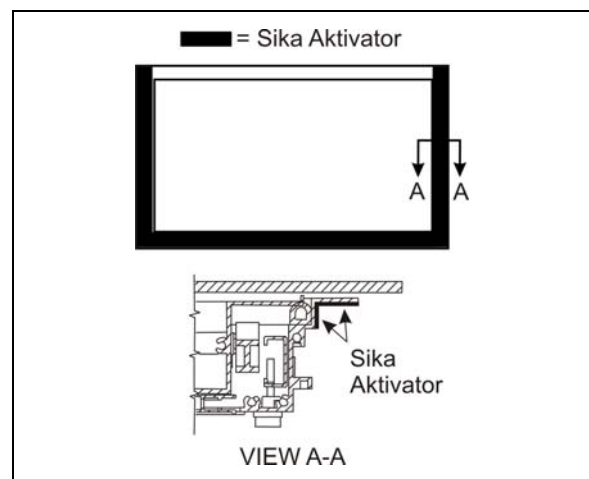

FIGURE 65 : AWNING WINDOW - SIKA AKTIVATOR
6. Apply Sika Aktivator as per FIGURE 65.